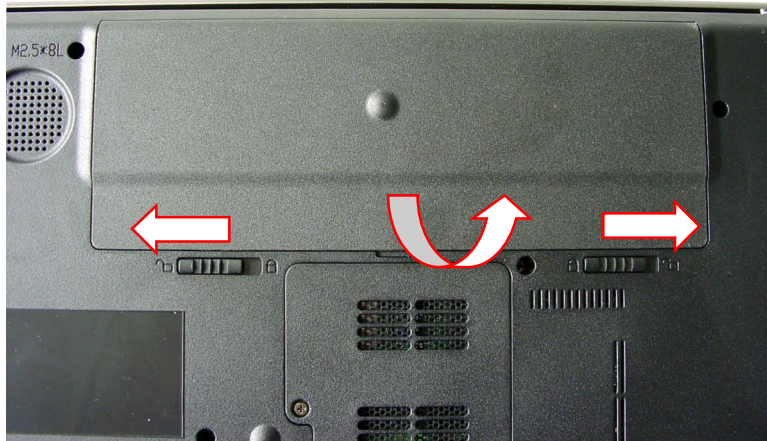

Fig. 1 Removing the battery.
4. Slide and hold the battery release latch to the release position and, at the same time, lift the battery upwards. There are three tabs holding the battery in place at the back (see Fig. 1).
5. Take the battery out of the compartment (see Fig. 1).